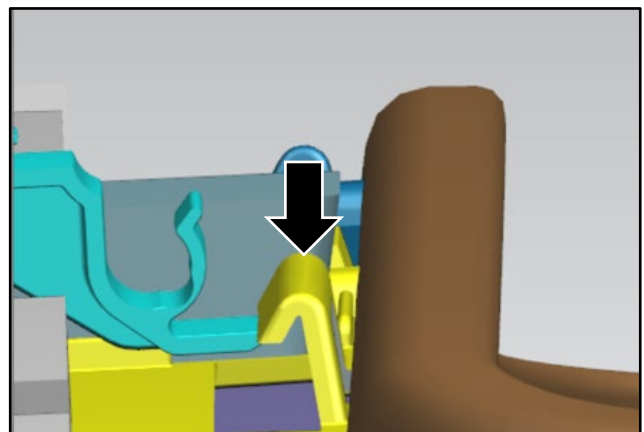

Figure 6
7. The headliner clip must be in the correct position before you install the headliner (refer to Figure 6).